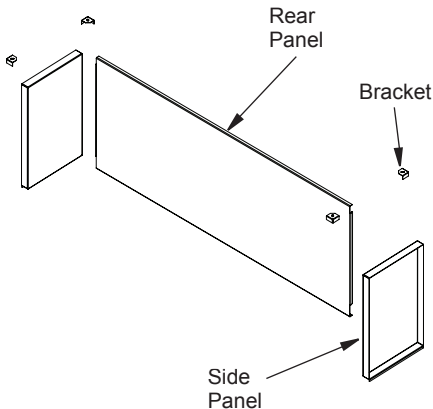

Figure 3 - Removing Rear Interior Wall for See-Thru Applications
2. Unscrew 4 corner brackets from the fire-box top (See Figure 3).